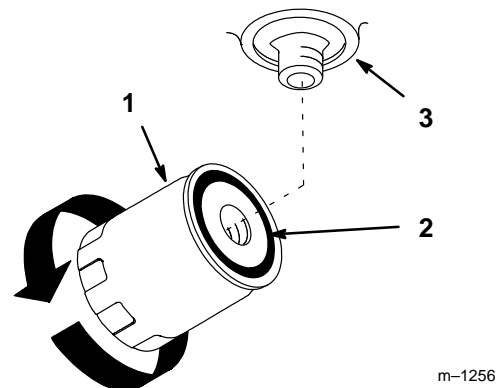

Figure 29
- Apply a thin coat hydro fluid to the rubber gasket on the replacement filter (Fig. 29).
- When fluid overflows filter turn the oil filter clockwise until the rubber gasket contacts the filter adapter, then tighten the filter an additional 1/2 turn (Fig. 29).